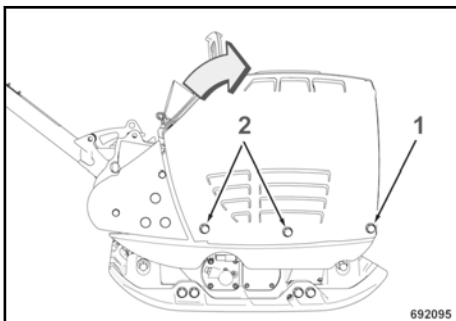

Fig. 72
Loosen the hood fasteners (1) on both sides and remove the fasteners (2) from both sides ↪ Fig. 72.